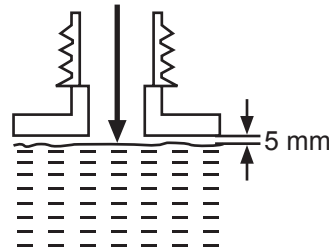

Fig. 16
- > Set the product on any suitable surface with the chain oil tank cap (28) facing upwards.
- > Unscrew and remove the tank cap (28), then add the lubricant into the tank. Use motor oil SAE#10W-30 all year round or SAE#30-#40 in summer and SAE#20 in winter.
- > Use a proper funnel with a filter to prevent debris entering the tank and to avoid spilling and overfilling the tank. Do not overfill and leave approximately 5 mm of space to the lower edge to allow the lubricant to expand (Fig. 16).